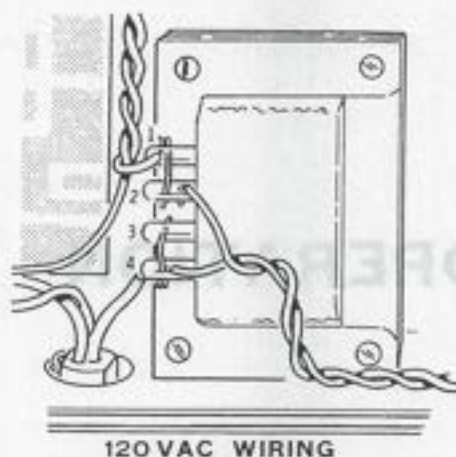

Figure 2A
1. Refer to Figure 2A and remove the two jumper wires from the terminals located on the power transformer.